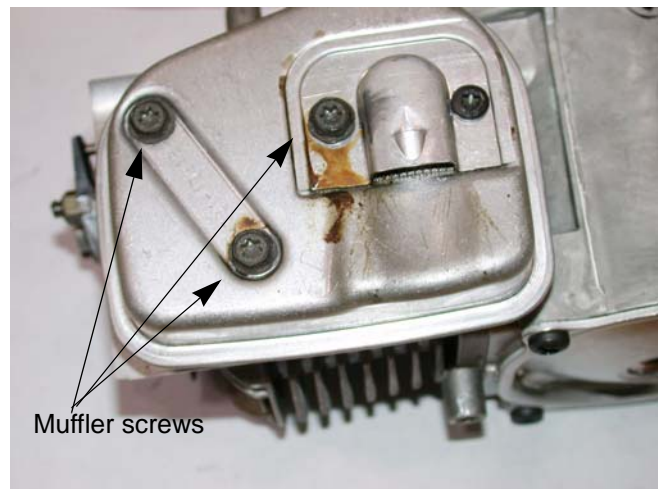

Figure 8.2
5. Remove the three screws that secure the muffler to the cylinder head. See Figure 8.2.